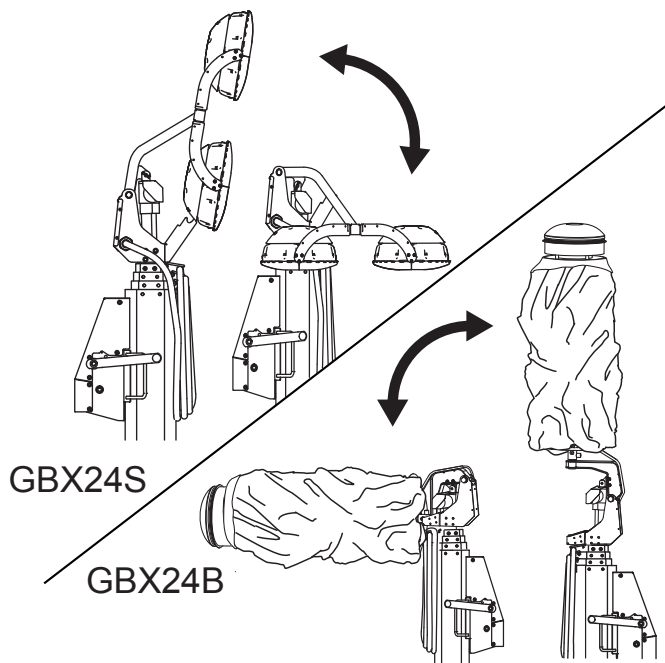

Figure 16. Raising and Lowering Lampstand
3. The lampstand will begin to rise (Figure 16). When the lampstand is in the desired position, release the actuator switch. The actuator switch will return to the center position automatically and lampstand will stop rising.